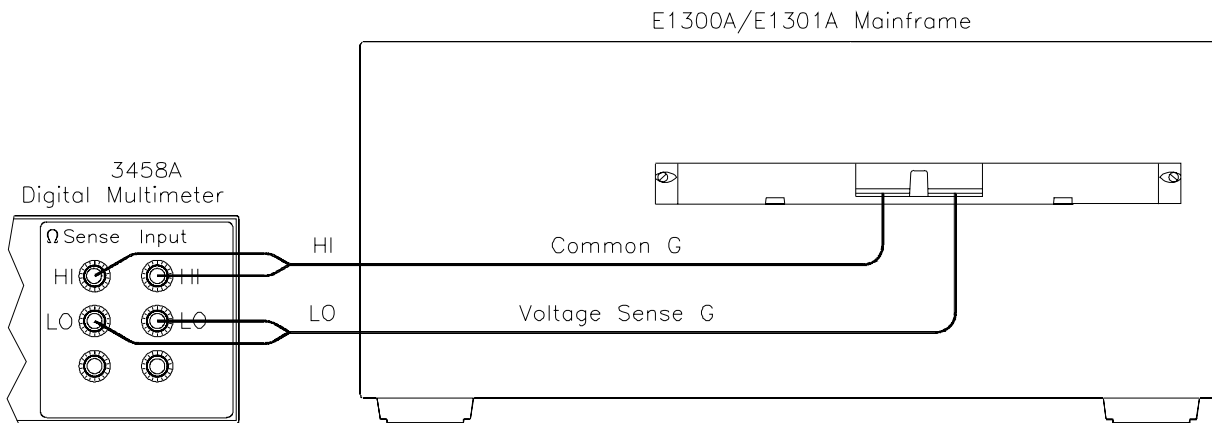

Figure 2-5. Ch 90 GU Measurement Connections
- Connect DMM leads as shown in Figure 2-5